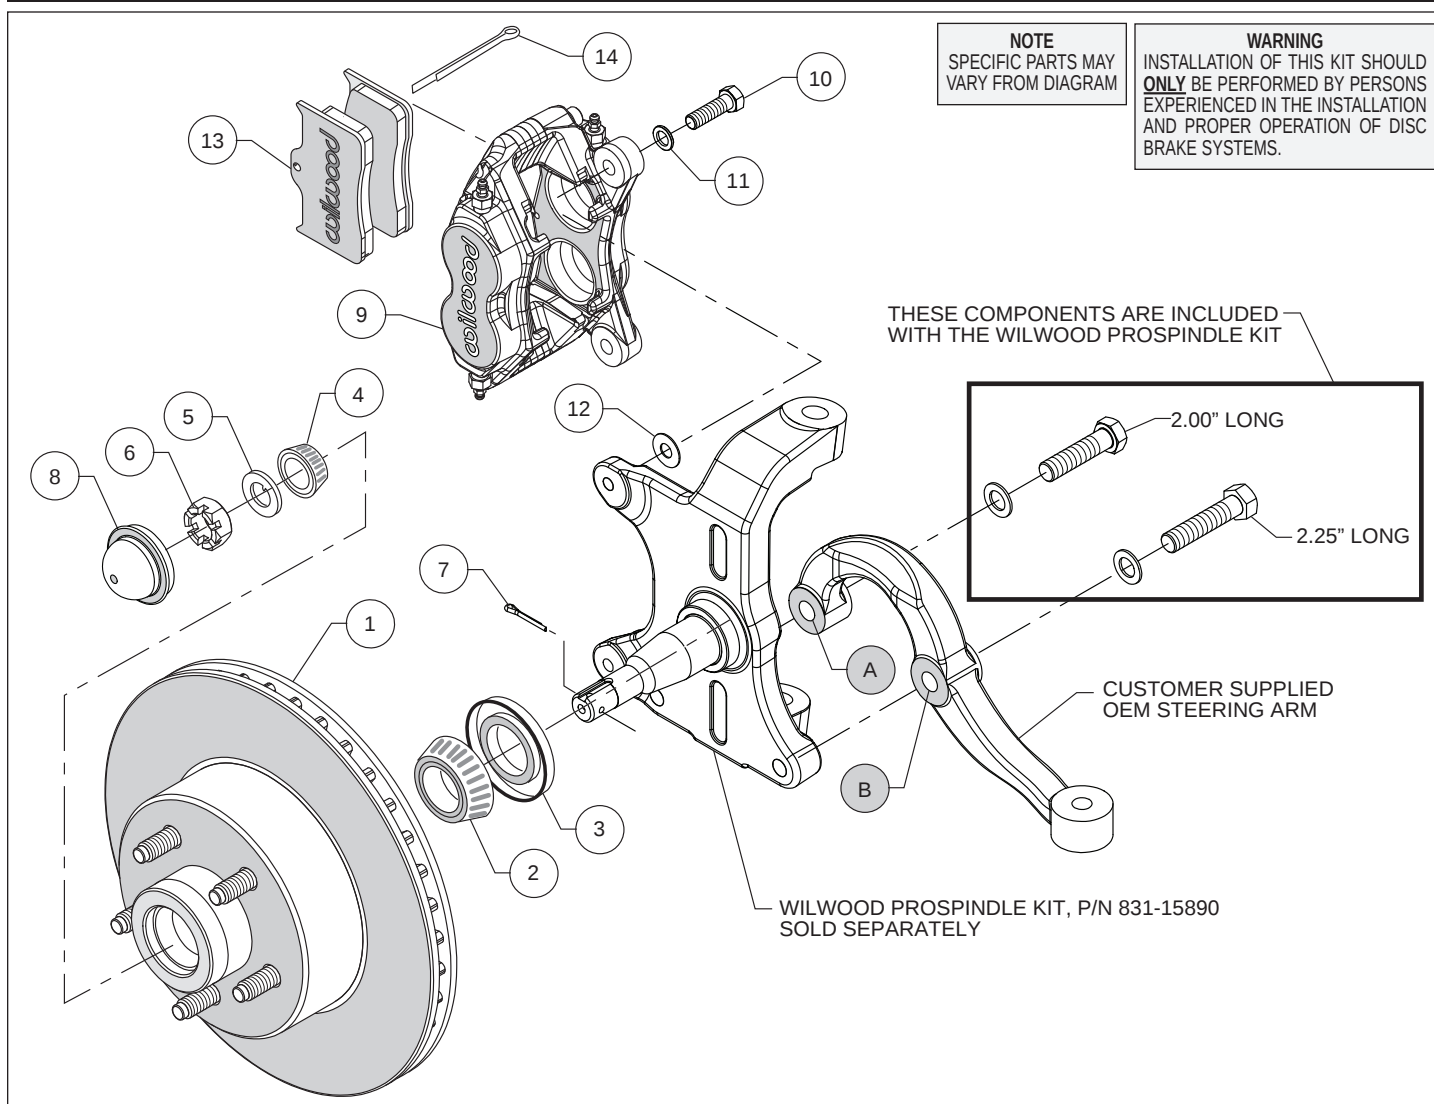

Figure 1. Typical Installation Configuration
Assembly Instructions (numbers in parenthesis refer to the parts list and Figure 1 on the preceding pages):
•**NOTE:** Wilwood's AFX ProSpindle kit includes bolts and washers to mount the steering arm (customer supplied) to the spindle. The various bolts are identified by length in the following instructions and in Figure 1.
•Orient the steering arm, and identify the hole marked "A" as shown in Figure 1. Attach arm to spindle using 2.00" long bolt and washer (from ProSpindle kit), Figure 1. Finish attaching the steering arm through the hole marked "B", using 2.25" long bolt and washer (from ProSpindle kit), Figure 1. Temporarily tighten the mounting bolts. **NOTE:** The steering arm must fit squarely against the mounting points on the spindle. Inspect for interference from casting irregularities, machining ridges, burrs, etc. Remove bolts one at a time, apply red Loctite® 271 to threads, and torque to 77 ft-lb.
•Pack the large inner bearing cone (2) with high temperature disc brake bearing grease (available from your local auto parts store) and install into the backside of the hub/rotor (1), Photo 1.
•Install the grease seal (3) by pressing into the backside of the hub/rotor (1), flush with the end of the hub.
•Pack the small outer bearing cone (4) with high temperature disc brake bearing grease and install into the front side of the hub/rotor (1). Slide the hub/rotor onto the spindle. Secure using spindle washer (5) and spindle nut (6), Photo 2. Bearing adjustment: Tighten the nut while turning the hub. When there is a slight bind on the bearings, they are seated correctly. Back the nut off about 1/6 to 1/4 of a turn, or sufficiently to allow .001" to .007" end play. **WARNING:** Failure to back off adjusting nut could cause bearing to run hot and be damaged, which could cause the wheel to lock or come off. Install new cotter pin (7).
•Press the dust cap (8) into the hub/rotor (1). **NOTE:** Do not hammer center of cap. Install using outer flange only.
•Mount the caliper (9) onto the caliper mounting tabs on the spindle using bolts (10) and washers (11), as shown in Figure 1. Initially place one .035" thick shim (12) on each bolt between the caliper and the mounting tabs on the spindle, Figure 1 and Photo 3. Temporarily tighten the mounting bolts and view the hub/rotor (1) through the top opening of the caliper. The rotor should be centered in the caliper (9), Photo 4. If not, adjust by adding or subtracting shims (12 and/or 13) between the mounting tabs and the caliper. Always use the same amount of shims on each of the two mounting bolts. Once the caliper alignment is correct, remove the bolts one at a time, apply red Loctite® 271 to bolt threads, and torque to 40 ft-lb.
•Install the disc brake pads (14) into the caliper, with the friction material facing the hub/rotor (1), Photo 5. Secure in place using cotter pin (15), Photo 6.